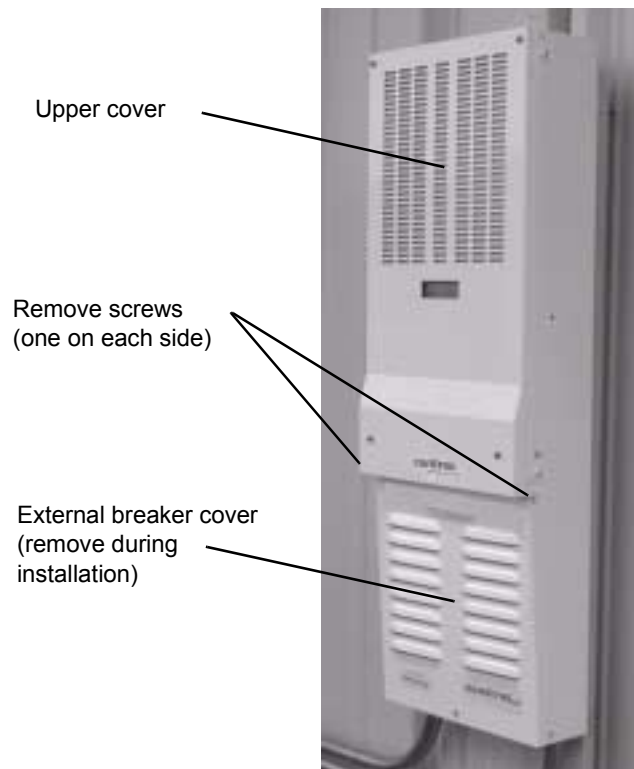

Figure 2-6 External cover components
6. Remove the lower external cover to access the internal circuit breaker panel by removing the screw on each side of the cover with a 3/32" hex bit, as shown in Figure 2-6.